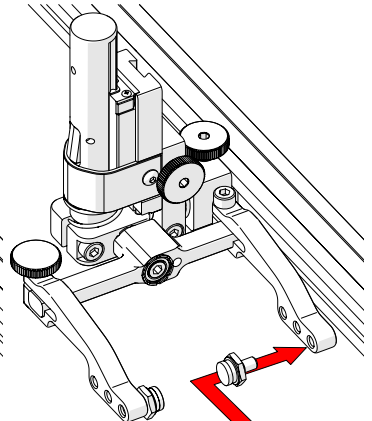

Fig. 128 - Place buttons
3. Position the pivot buttons where necessary. When a narrow scanning footprint is required, use the pivot button holes closest to the yoke (Fig. 128).